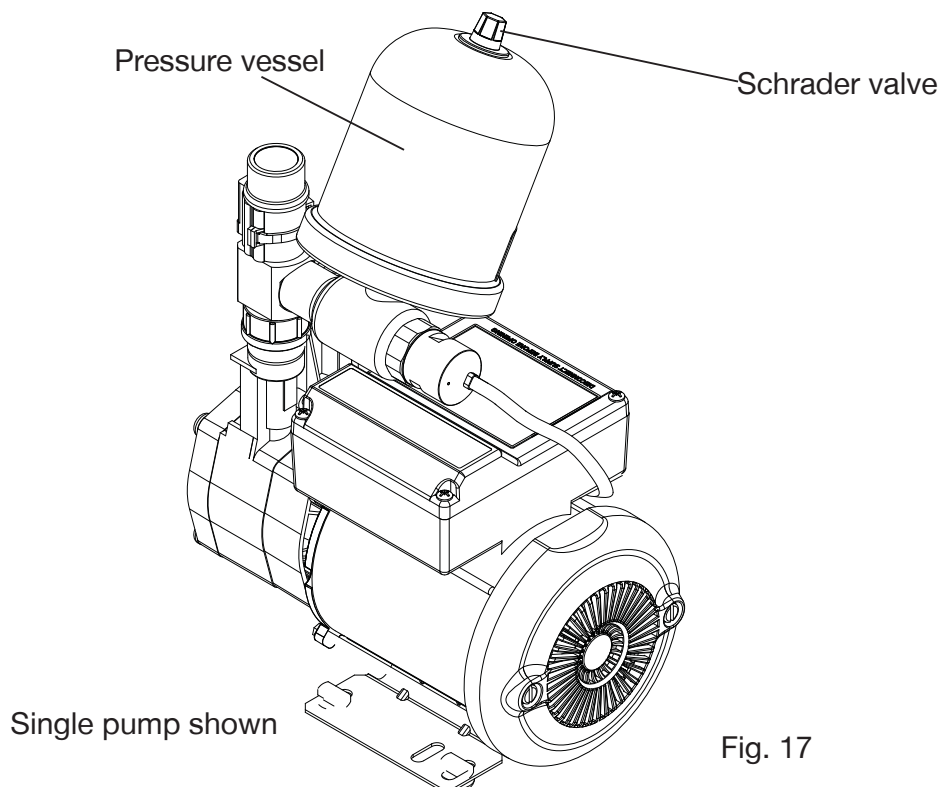

Fig. 17
- d) Check air charge at Schrader valve (Fig. 17) using a tyre pressure gauge.